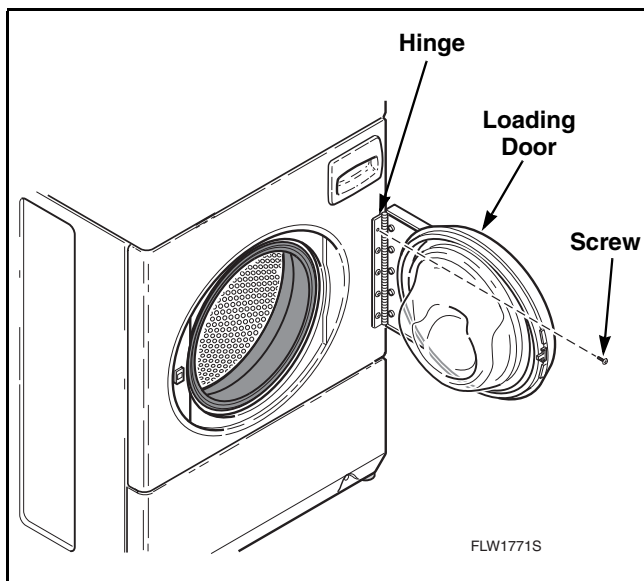

Figure 13
- The loading door can be adjusted up or down somewhat by loosening screws holding door hinge to front panel, then raise or lower door before retightening screws. Refer to *Figure 13*.